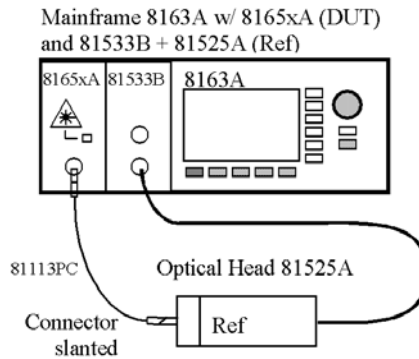

Figure 7 Measurement Setup for Output Power and Stability Test
- 4 Connect the equipment as shown in Figure 7.